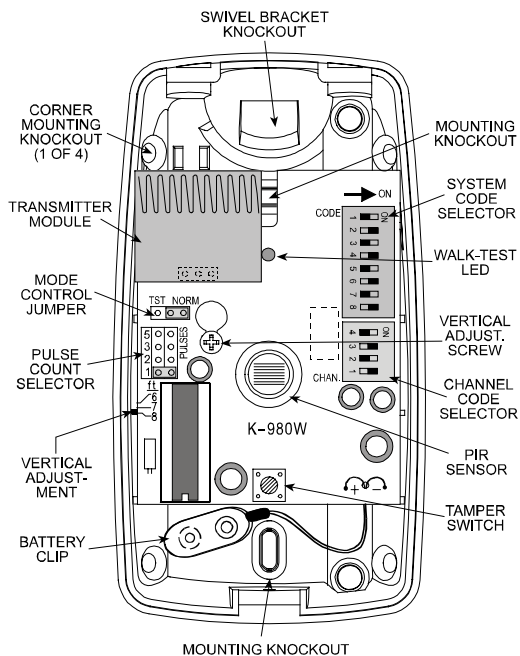

Figure 4. Inside View
and remove it via the "keyhole" (see Figure 4).
- 4th. Refer to Figure 4 and punch out the mounting knockouts at the rear wall of the base (for surface mounting) or mounting knockouts at the angled sides of the base (for corner mounting).